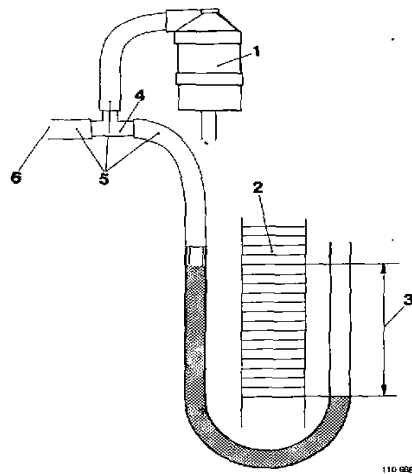

Fig. 160. Fluid manometer, connected when checking pressure drop indicator
1. Connect the pressure drop indicator according to fig. 160.
2. Suck on the pipe (6). The pressure drop indicator should show completely red at 440–560 mm (17–22") (water column). Replace pressure drop indicator, if faulty.